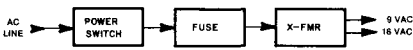

Fig. 7-23. Block diagram of frame assembly, Model 1541.
7.2.1 Frame Electrical Theory (Refer to Figs. 7-23 and 7-24)